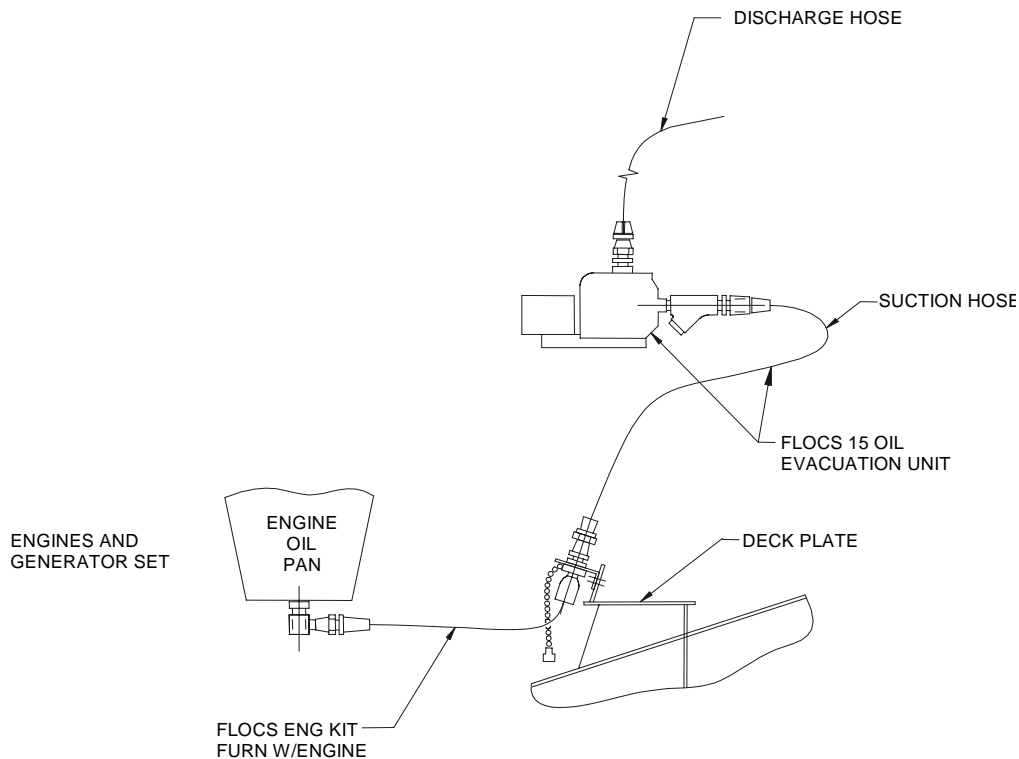

Figure 3-16
D.19. General The fast lubricating oil change system (FLOCS) (**figure 3-16**) is comprised of engine-mounted hoses and fittings, and a portable oil change cart. The system allows for quick oil changes without the hazard of spilling or dripping oil into the bilge areas.